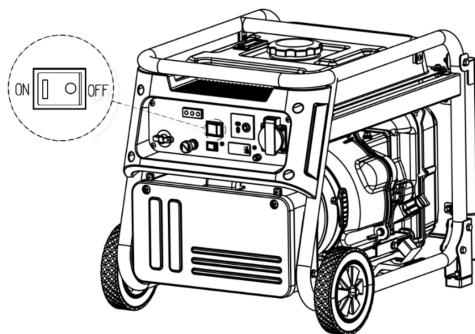

Figure 8 The engine-stop switch position.
4.3 Turn the engine stop switch (on panel) ON. See figure 8.